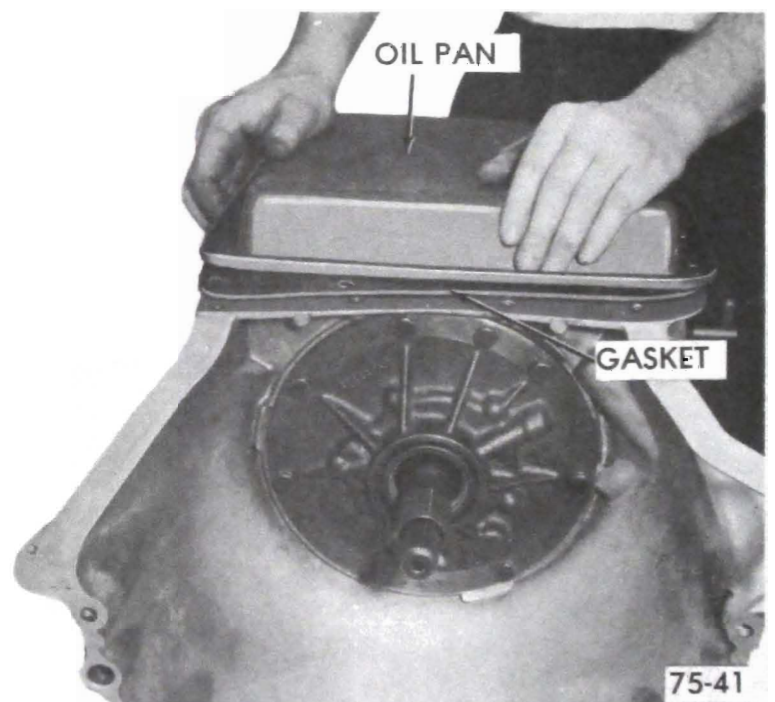

Figure 75-279
1. Install new bottom pan gasket and bottom pan. See Figure 75-279.